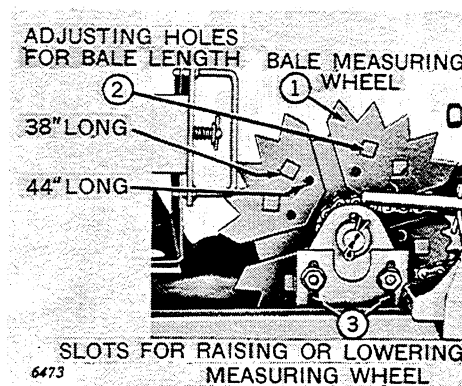

Figure 22
The bale measuring wheel (1), Figure 22, may be set for 34-, 38-, 41-, or 44-inch bales. The setting shown (2) is for 38-inch bales. For shorter bales, decrease the diameter of the wheel. For longer bales, increase the diameter of the wheel.